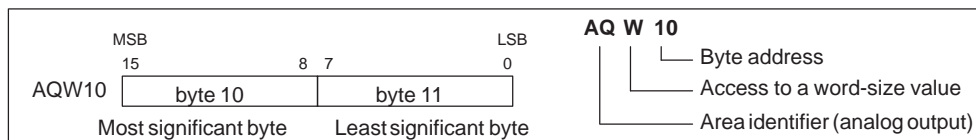

Figure 5-6 Accessing an Analog Output
The S7-200 converts a word-length (16-bit) digital value into a current or voltage, proportional to the digital value (such as for a current or voltage). You write these values by the area identifier (AQ), size of the data (W), and the starting byte address. Since analog outputs are words and always start on even-number bytes (such as 0, 2, or 4), you write them with even-number byte addresses (such as AQW0, AQW2, or AQW4), as shown in Figure 5-6. Analog output values are write-only values.